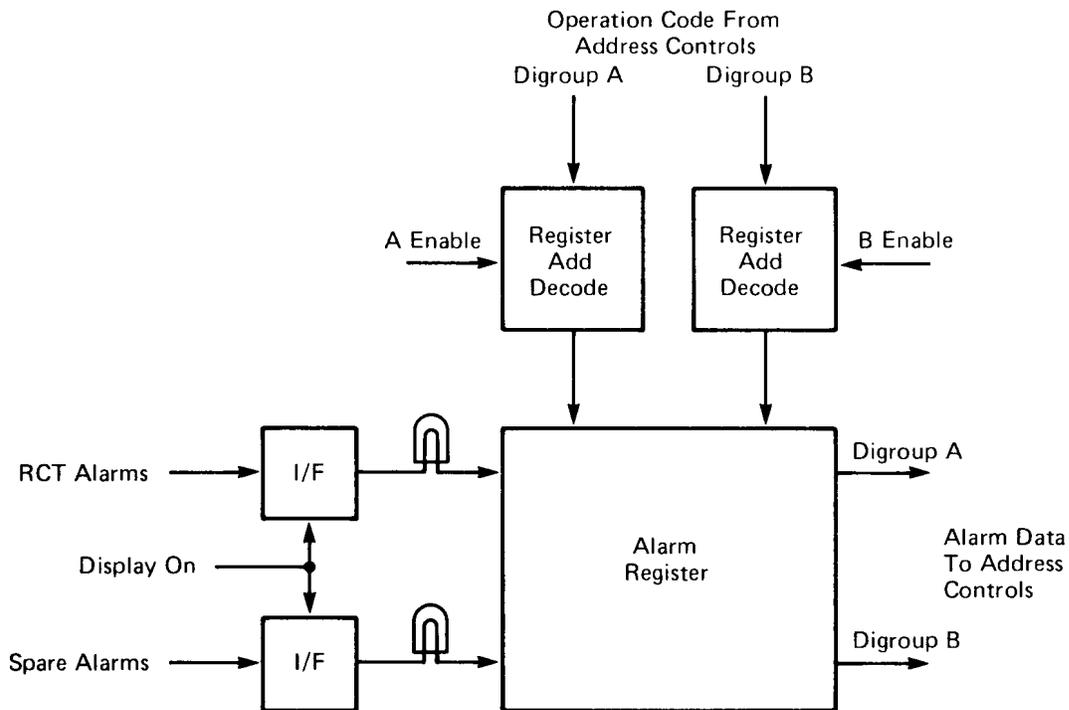

Fig. 24 — QPP420 Alarm Remote, Block Diagram
QPP420 Alarm Remote (Fig. 24)
4.23 The QPP420 circuit pack interfaces between the alarm detection circuits and the QPP417 address control remote circuit packs. Fourteen RCT and four spare alarms are provided (see Table A and Fig. 24).